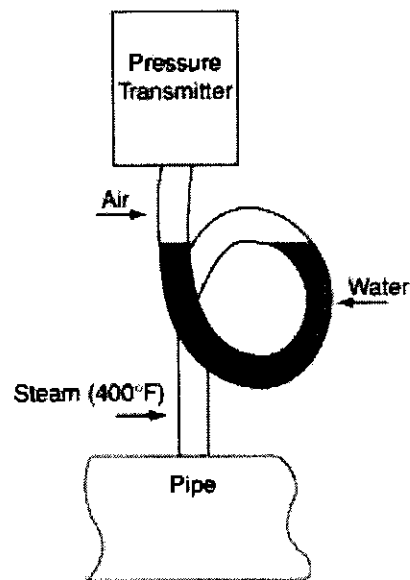

Figure 1: Example of a Syphon Loop
- A steam syphon loop (pig tail) should be installed between the steam source and the pressure transducer as shown in Figure 1. As condensate forms in the syphon loop, it creates a water barrier to protect the transducer from heat and chemicals. On new installations, it is recommended to add water to the syphon loop to protect the transducer when condensate has not yet formed.